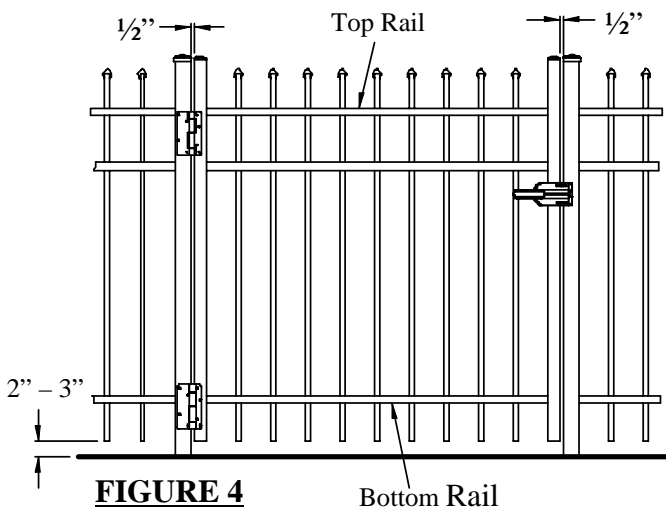

FIGURE 4
- 2.2. For a single gate installation set the gate opening 1" wider than the actual gate. (example: a 36" wide gate actually measures 35" wide and will require the actual gate opening to be 36" wide.) See Figure 4.